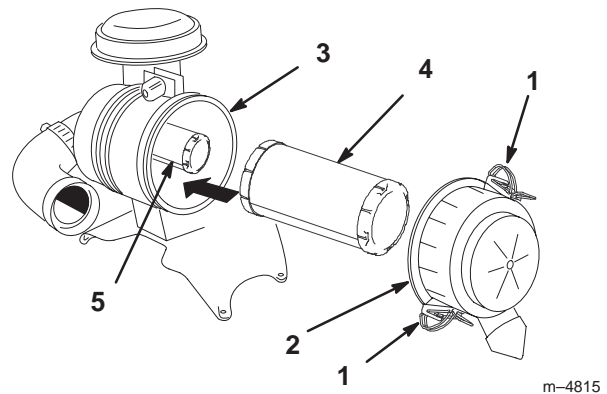

Figure 38
3. Release the latches on the air cleaner and pull the air cleaner cover off of the air cleaner body (Fig. 38).
5. Gently slide the primary filter out of the air cleaner body (Fig. 38). Avoid knocking the filter into the side of the body.
2. If the safety filter is being replaced, carefully slide it into the filter body (Fig. 38).
3. Carefully slide the primary filter over the safety filter (Fig. 38). Ensure that it is fully seated by pushing on the outer rim of the filter while installing it.
4. Install the air cleaner cover with the side indicated as **UP** facing up and secure the latches (Fig. 38).